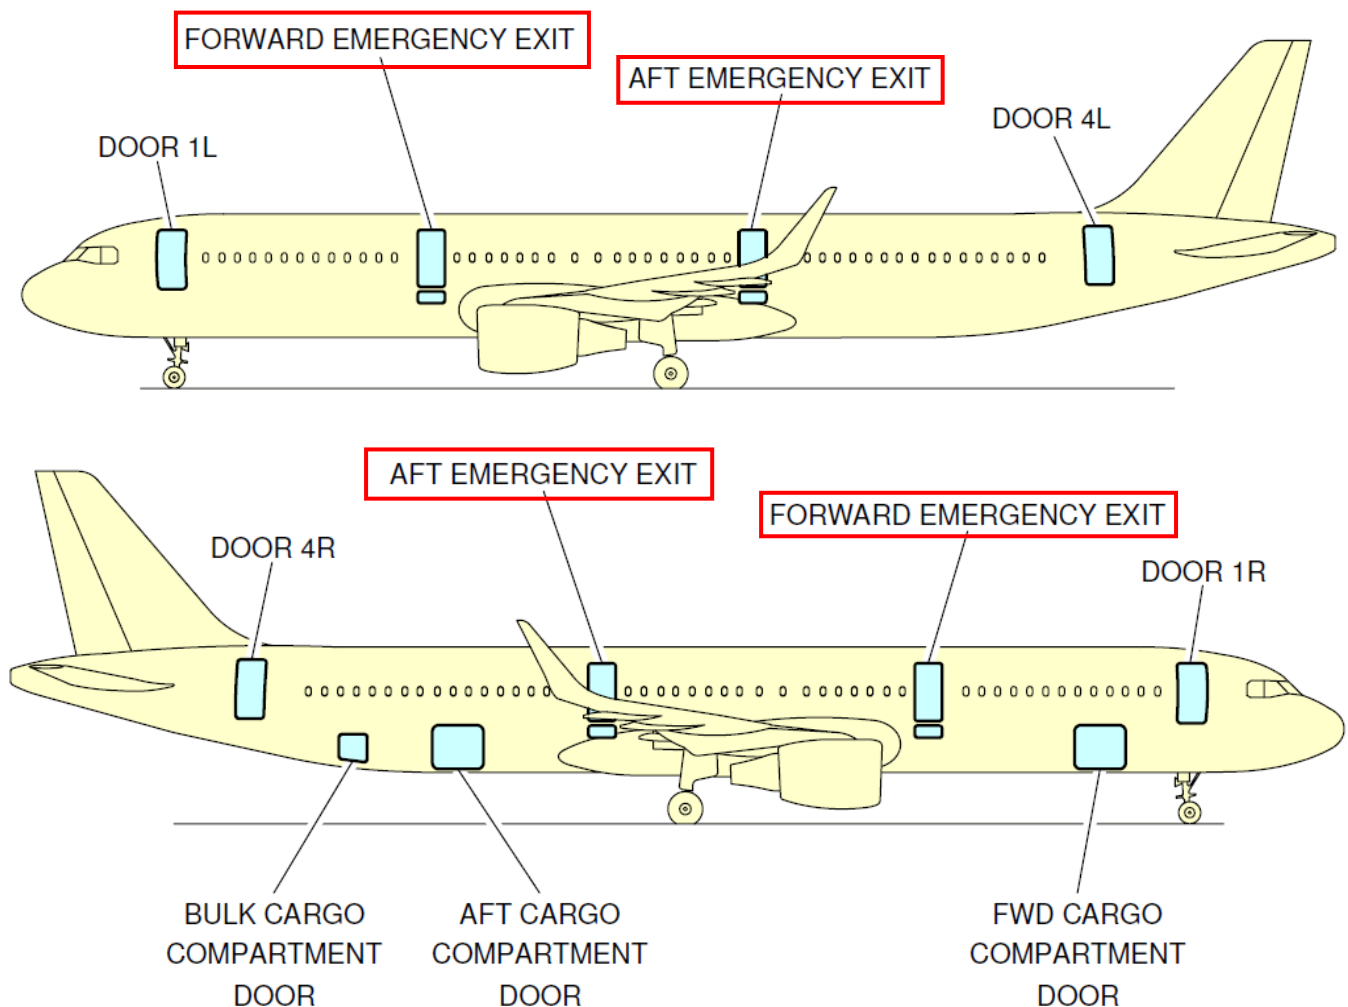

Figure 1 A321 Door Identification and Location.
- 2.1.1 The Aircraft Door Barrier net is suitable to be fitted to the Emergency Exit Doors see figure 1, Forward Emergency Exit L, AFT Emergency Exit L, AFT Emergency Exit R and Forward Emergency Exit R highlighted in red.
- 2.1.2 The aircraft door barrier net is fitted to 4 off aircraft door brackets located around each aircraft door frame shown in Figure 1.